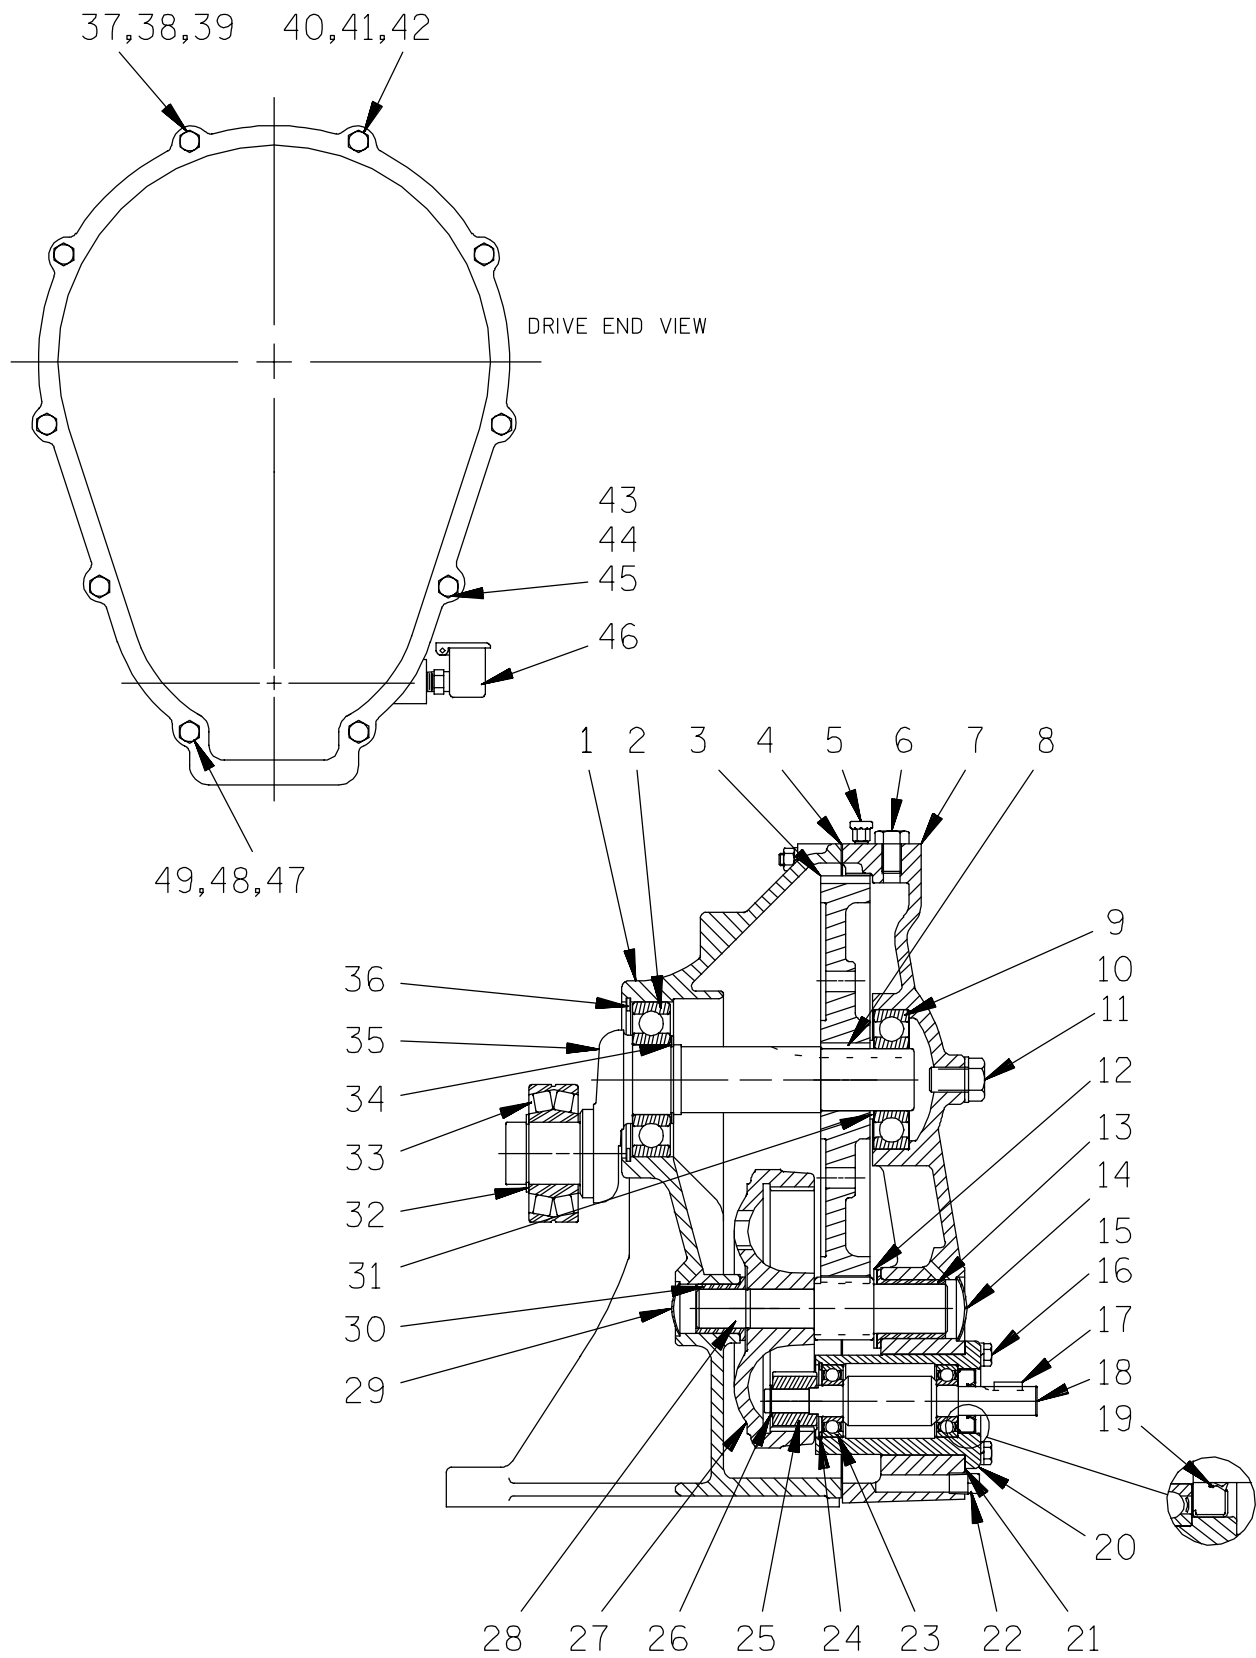

Figure 4. 44161-009 Gearbox Assembly
Loosen the hardware (2, 3 and 4) and remove the end cap (27, Figure 1). Slide the bearing cap (1) off the crankshaft roller bearing (33, Figure 4), and remove the plunger rod assembly (5).
Disengage the hardware (19, 20, 21 and 22) and remove the coupling guard (4). Loosen the hardware securing the drive shaft coupling (1). Separate the gearbox assembly from the coupling by pulling straight away. Remove the shaft key (17, Figure 4).
(Figure 4)